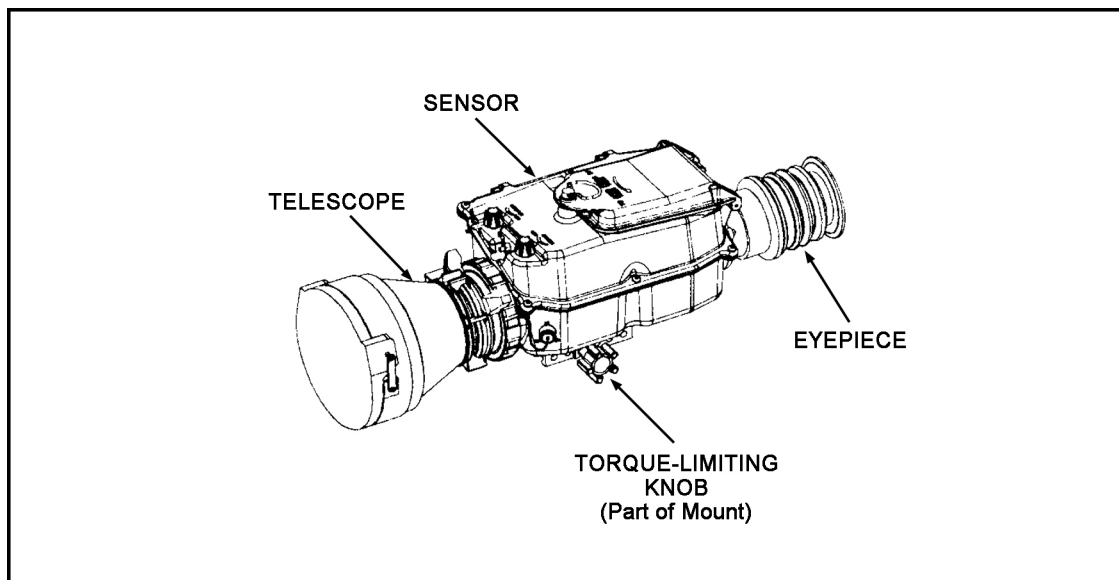

Figure G-9. AN/PAS-13B (V) 3 heavy weapon thermal sight.
The AN/PAS-13B (V) 3 HWTS is a silent, lightweight, compact, and durable battery-powered infrared imaging sensor that operates with low battery consumption (Figure G-9).